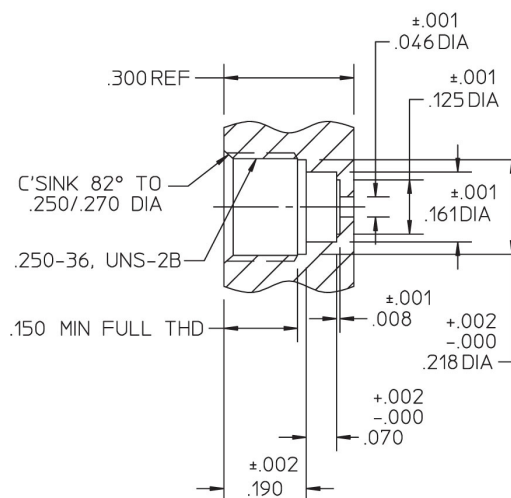

Figure 3
2. Insert a step reamer into the pilot hole and ream to the depth shown in Figure 3.
3. Tap .250-36 thread to the depth shown in Figure 3.